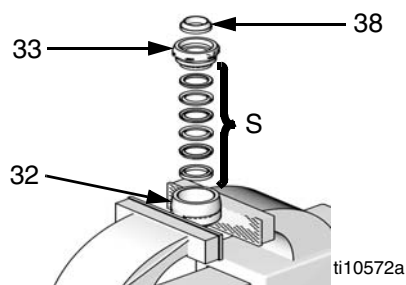

FIG. 18
1. Lubricate the intake valve packings (S) and install them in valve (32). See FIG. 18. See Packing Kits sections for the correct intake valve packing configuration.
2. With beveled side facing up, press intake valve seal (38) in to recess of intake valve packing nut (33) until it snaps into place. The nose of the seal should be flush with or slightly recessed into the face of the packing nut. See FIG. 18.
3. Place flats of valve body (32) in a vise. Screw packing nut (33) into valve body handtight. Set intake housing assembly aside.